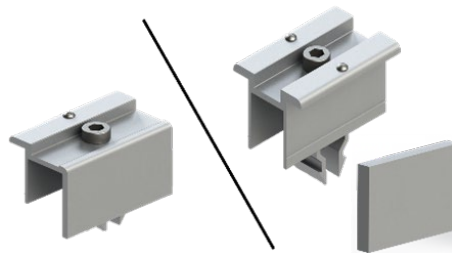

Fig. A1 – KB Konnect End Clamp, KB Konnect Clamp with End Block
- 2 Click the KB konnect end clamp (see Fig. A1) into the top support slot. Install with either KB konnect end clamp or KB konnect clamp and end block.